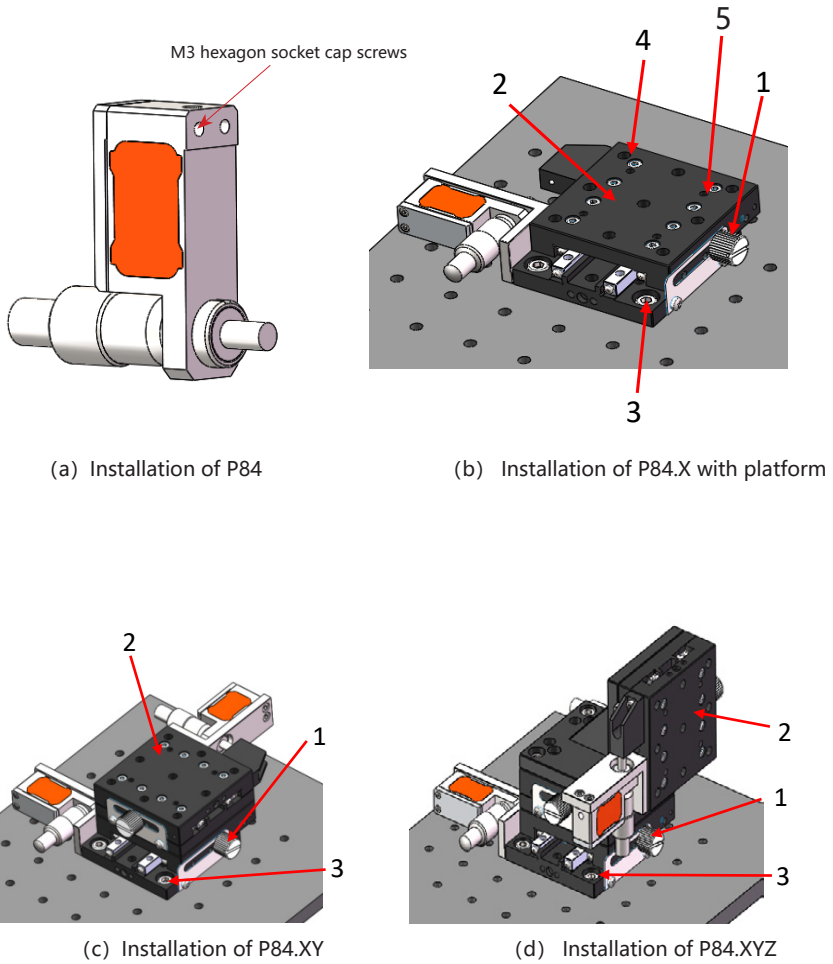

FIG. 5 P84 Installation diagram
- B) Loosen the hand wheel at the bottom, push open the moving platform in the direction shown in Figure 5, screw and lock the hand wheel. After mounting the platform with M6 screws, hold the moving surface, slowly loosen the hand wheel, and make the platform slowly rest on the micrometer.